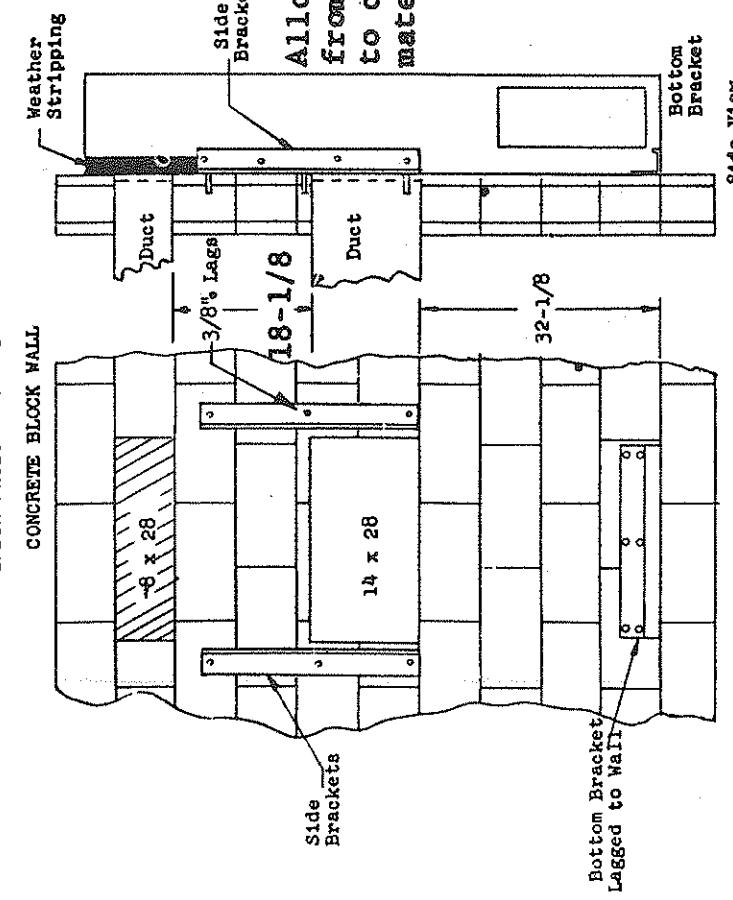

Fig. 1
1. Two holes, the size of the supply and return air openings must be cut through the wall as shown in Fig. 1 and 2 on page 6.
These units are secured by wall mounting brackets which secure the unit to the outside wall surface at both sides and at the bottom (Fig. 1). In a standard 8 x 16 in. block wall, knock out two 28 in. sections of concrete blocks normally the 7th, 8th, and 11th course of blocks above floor level. In both cases this should be one whole block plus 7 in. of the block on each side.
Locate and cut out two openings as shown in (FIG. 1). Cut away the outside siding to the depth of the sheathing. Install metal stripping at the top and case or otherwise seal joints between siding and sheathing. Frame in the openings between the wall studs as necessary for the particular wall involved with the plates at the bottom of each wall opening being sufficiently strong to carry the weight of the unit.